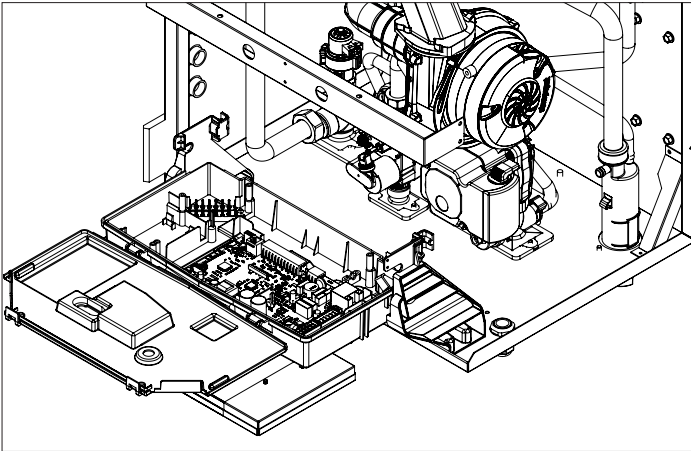

Figure 49 - Access to Low Voltage Wiring Connections
- Open the control panel cover to have access to the main PCB. See Figure 49.